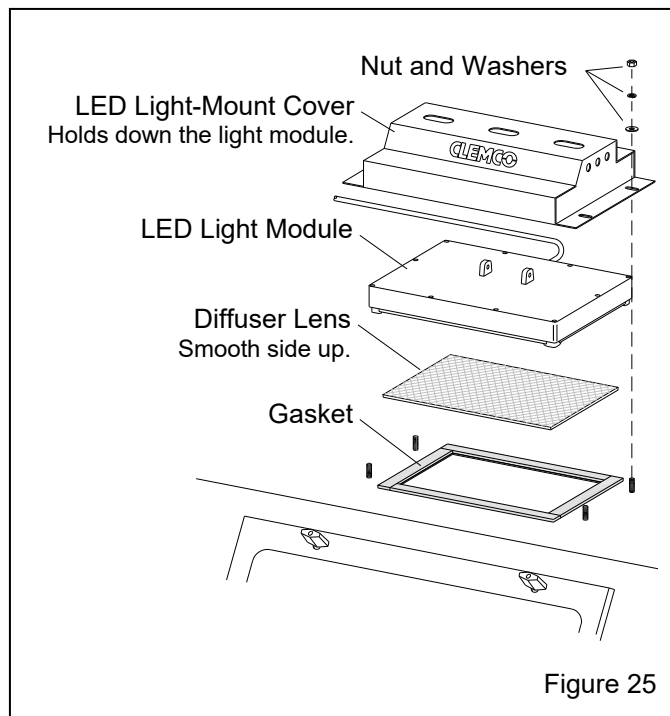

Figure 25
7.7.1.2 Remove the four nuts and washers that attach the light-mount cover to the cabinet and remove the cover, as shown in Figure 25.
each end. Peel a short section of adhesive backing and adhere the strip gasket to the top edge of the light opening, as shown in Figure 25. Press the gasket to bond. Repeat the process for each side, compressing the ends to seal.